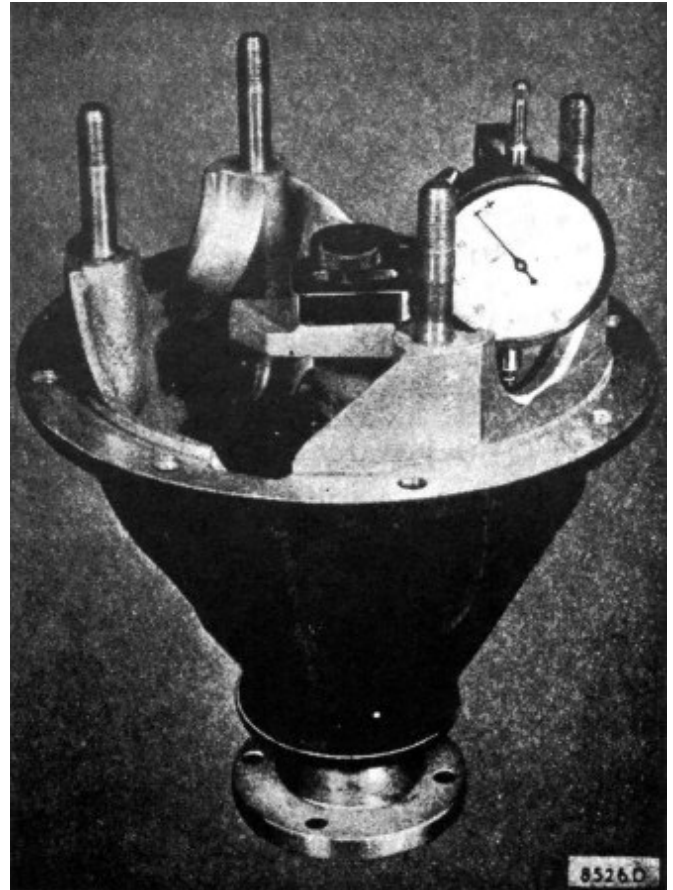

Fig. H.7
- (3) Assemble the pinion and rear bearing with a washer of known thickness behind the pinion head.
- (4) Position the pinion in the gear carrier without the shims, bearing spacer, and oil seal.
- (5) Fit the inner ring of the front bearing and the universal joint driving flange and tighten the nut gradually until a bearing preload of 10 to 12 lb. in. (.12 to .14 kg. m.) is obtained.
- (6) Remove the keep disc from the base of the magnet. Adjust the dial indicator to zero on the machined step 'B' of the setting block.
- (7) Clean the pinion head and place the magnet and dial indicator in position (Fig. H.7). Move the indicator arm until the foot of the gauge rests on the centre of the differential bearing bore at one side and tighten the knurled locking screw.